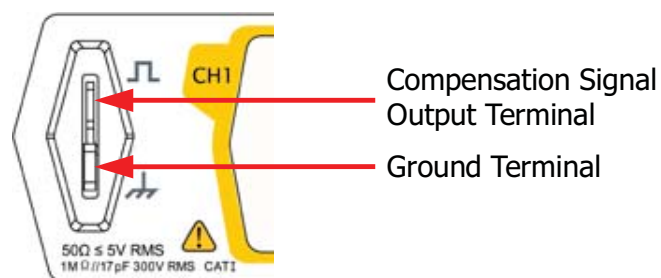

Figure 10 To Use the Compensation Signal
2. Connect the ground alligator clip of the probe to the "Ground Terminal" as shown in Figure 10 below.
3. Use the probe to connect the input terminal of CH1 of the oscilloscope and the "Compensation Signal Output Terminal" of the probe, as shown in Figure 10.